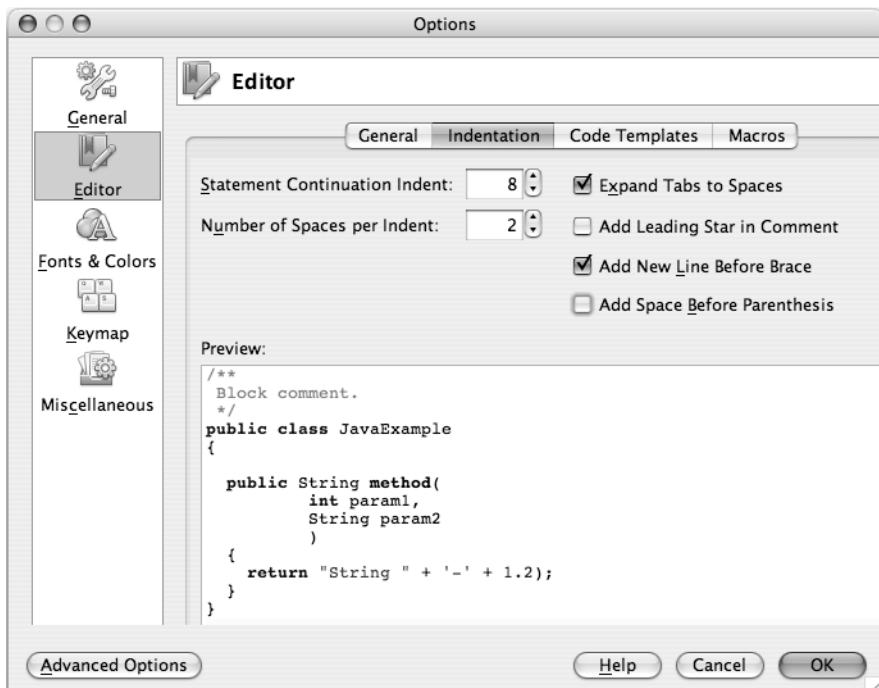

FIGURE 4-9: Setting the Indentation settings.
8. Set the Number of Spaces per Indent to 2, like in Figure 4-9.
11. Set the Number of Spaces per Indent to 2 as shown in Figure 4-9.